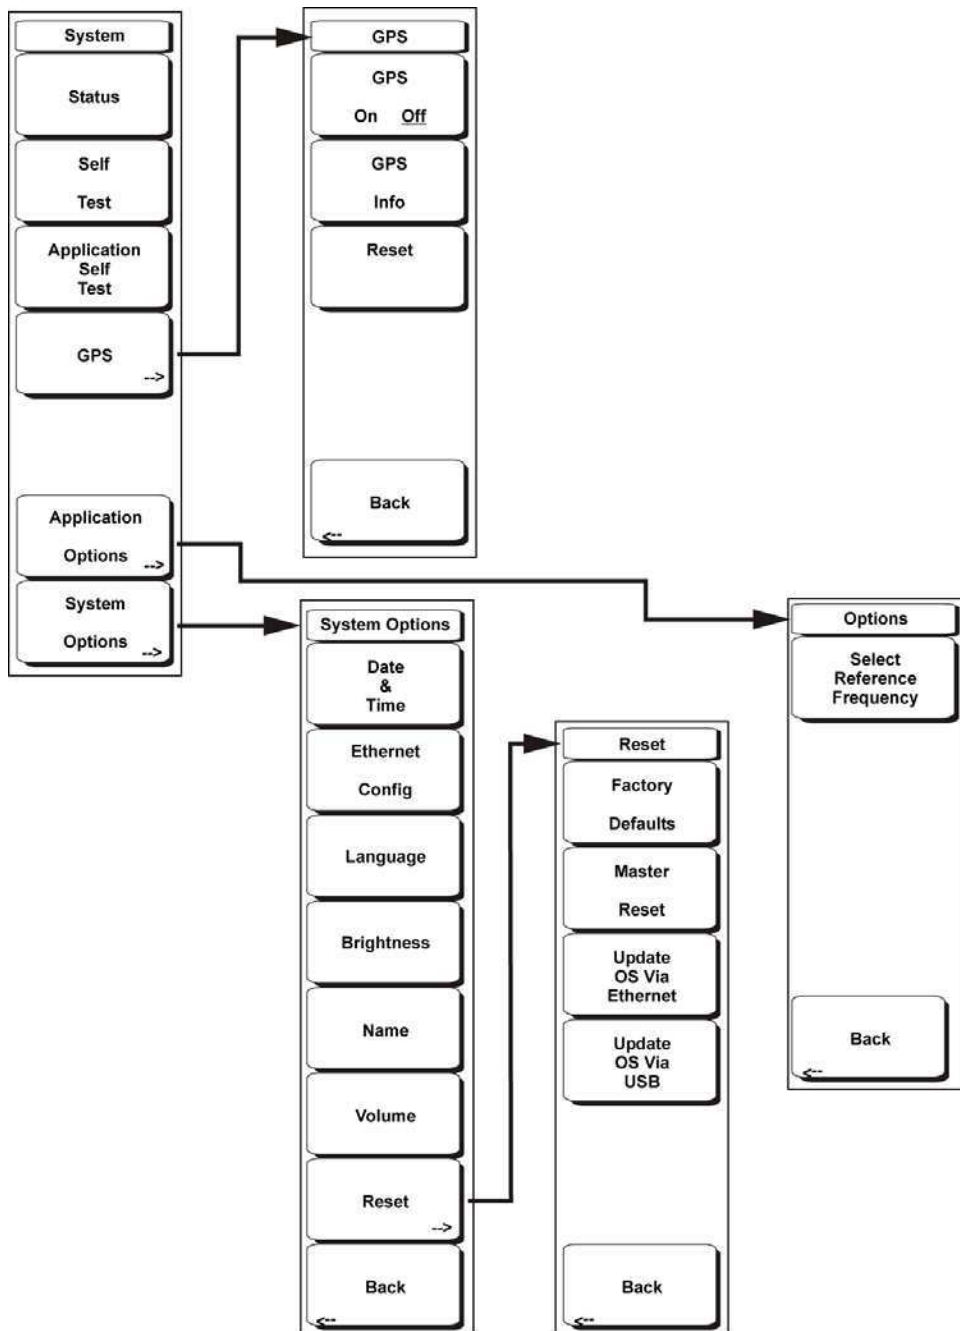

Figure 4-21. System Menu Soft Keys
To access the functions under the System menu, select the **Shift** key, then the **System (8)** key. The System menu soft keys are shown in Figure 4-21.